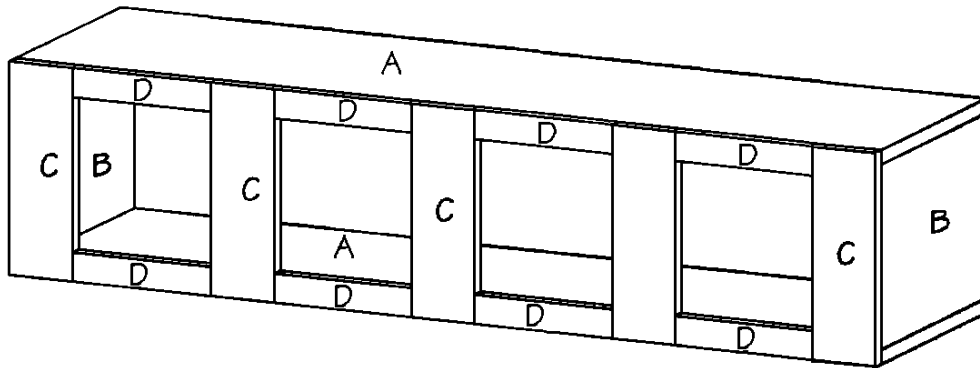

Figure 3
6. Repeat step 5 to attach a second vertical trim (C) to the opposite side of the assembly.
7. The third vertical trim (C) should be positioned 7-5/8 inches from the first. Screw through the ends of the vertical trim (C) into both of the top/bottoms (A) using three 1-1/2-inch-long screws on each joint.
8. Repeat Step 7 to attach the fourth vertical trim (C) 7-5/8 inches from the third.
9. Repeat Step 7 to attach the fifth vertical trim (C) 7-5/8 inches from the fourth and second.
10. Cut eight horizontal trims (D) from 1 x 2 pine, each measuring 7-5/8 inches long.
11. Apply glue to the meeting surfaces and screw one horizontal trim (D) to the top/bottom (A) between each pair of vertical trims (C) as shown in *Figure 3*. Use three 1-1/2-inch screws on each vertical trim (C).
12. To reinforce the joints between the horizontal and vertical trims (C and D), cut one trim support (E) from 1 x 1 pine measuring 46-1/2 inches long. You can rip this piece from one of the pieces of 1 x 4 pine to be used for the long bottom supports (N).
13. Apply glue to the meeting surfaces and screw the trim support (E) to the inside of the cabinet, against the horizontal and vertical trims (C and D) and the top (A). Note that there is only one trim support and that it will be at the top of the finished buffet. The lower horizontal and vertical trims (C and D)-will be reinforced later. Screw through the trim supports (C and D) and the top (A) using 1-1/4-inch screws spaced about every six inches.